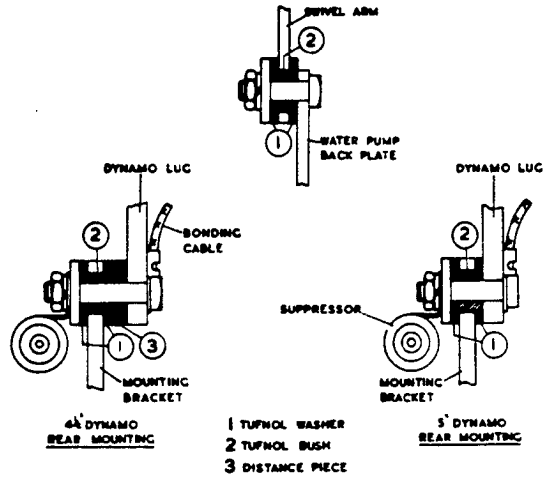
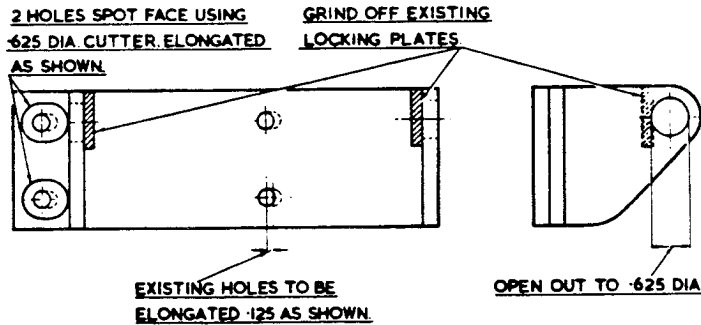

Fig. 3.
Fig. 4.
Fig. 3 shows the method of mounting the dynamo and insulators, but it should be noted that the distance piece (3) is only used on the C-45-FV dynamo. The modifications required on the C-45-FV bracket itself are shown in Fig. 4; these brackets are not supplied. The RA-5 bracket is available from the Service Department.